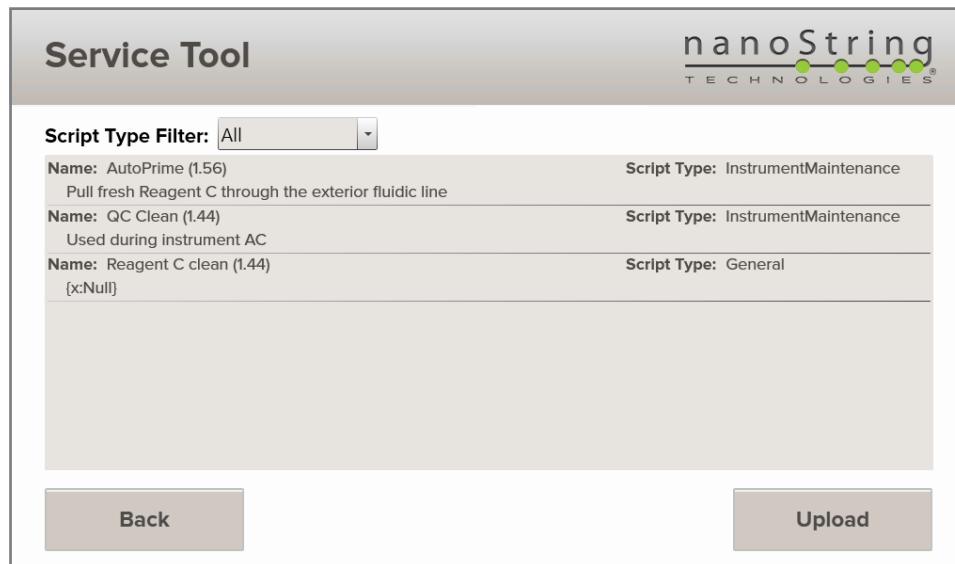

FIGURE 8.7 The Service Tool screen.
NanoString support may ask the user to upload and run a script during some troubleshooting scenarios if a particular test is not already installed on the instrument. These functions are performed using the Service Tool (FIGURE 8.7).
9. NanoString support may provide automated scripts to run using the instrument Service Tool (**FIGURE 8.7**). Follow the instructions provided to install and run the scripts.